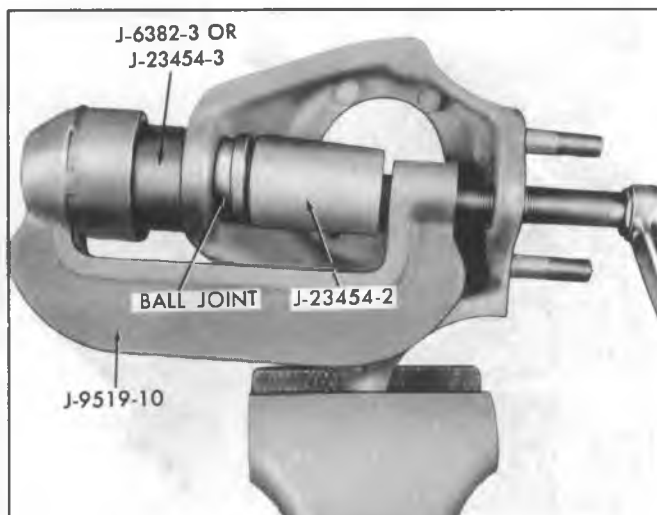

Fig. 3C-13K--Installing Lower Ball Joint
2. Remove the upper ball joint using tools J-9519-10, J-23454-1, and sleeve J-23454-4 or equivalent as shown in Figure 3C-12K.